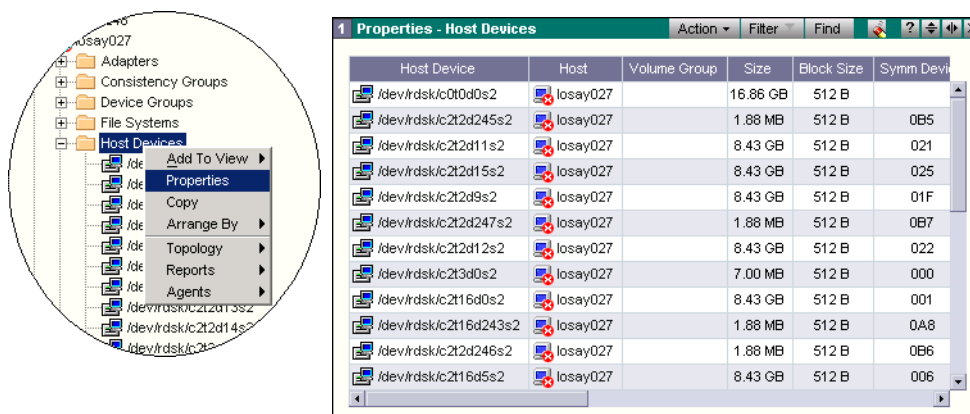

Figure 12-2 Viewing Host Devices and Their Properties
2. Right-click **Host Devices**, and then select **Properties**. A table appears in the target panel (as shown in Figure 12-2).
Figure 12-2 shows the host devices displayed in the tree and a target panel.